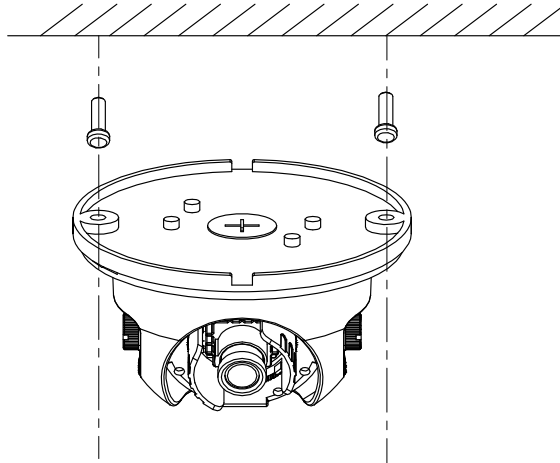

Figure 2.1.2 Secure Back Box to the Wall
2. By referring to the Figure 2.1.2, use the self-tapping screws to secure the back box of dome camera to the wall.